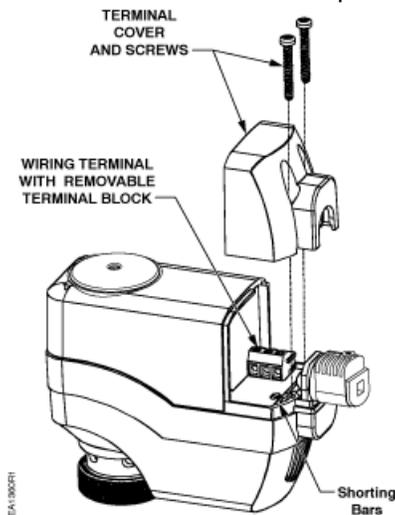

Figure 14. Manually Clearing Calibration Stroke from SSD61.5U Non-volatile Memory.
2. Locate hole on the circuit board with the shorting bars. See Figure 14.